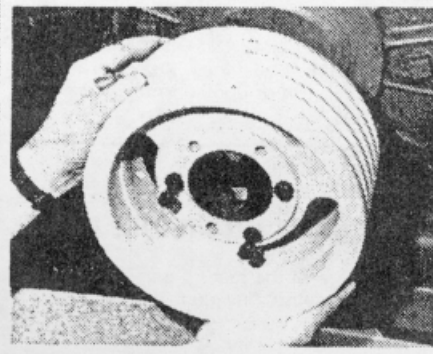

Fig. 5
- 3** Remove the mating part from the bushings and the bushing from the shaft. See Fig. 5.